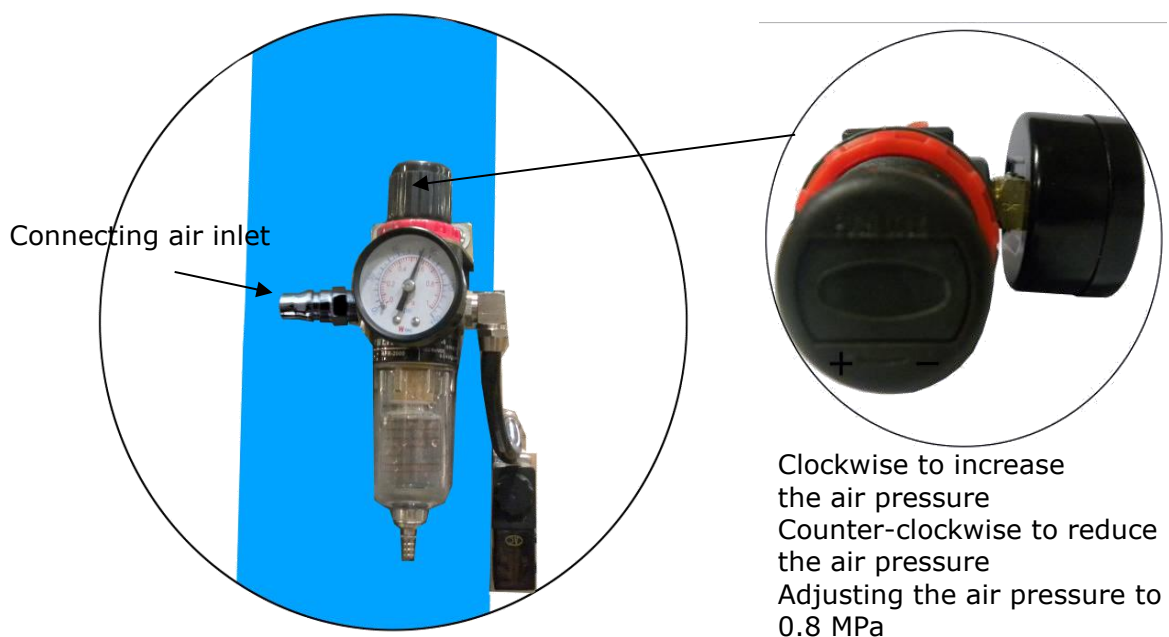

Fig. 42
5. Connecting air inlet (Air supply pressure 5 kg/cm²- 8 kg/cm²), adjusting the air pressure of Oil-water separator to 0.8 MPa (See Fig. 42).